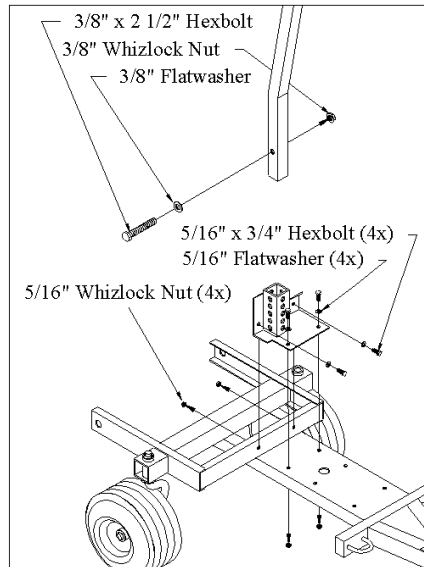

Fig. 2
2. With vertical support bracket (10) in position as shown, align with holes on frame. Secure with 5/16" x 3/4" hexbolts, 5/16" flatwashers as shown and 5/16" whizlock nuts. **Do not tighten.** Slip vertical upright (11) into receiver tube on support bracket as far as it will slide and align with a mount hole in tubes. Secure with 3/8" x 2 1/2" hexbolt, 3/8" flatwasher and 3/8" whizlock nut. **Again do not tighten.** **Fig. 2**